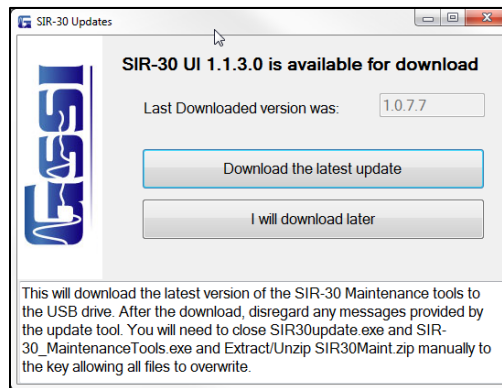

Figure 5: SIR 30 Update available.
- 3** The software will automatically attempt to locate the latest version of SIR 30 software and firmware and compare it to the distribution currently on the maintenance tool (if any). If the tool locates a new version of the software and firmware, it will display the message in Figure 5 below.